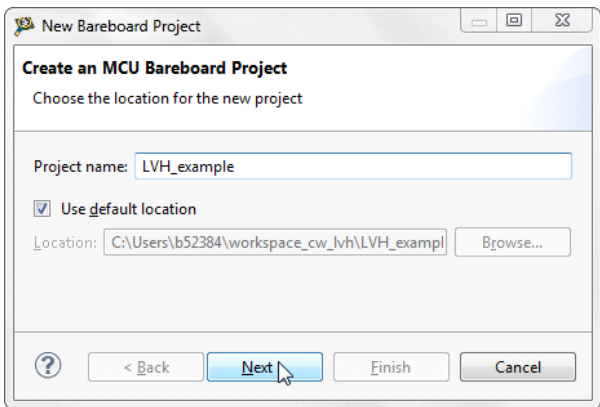

Figure 9. Create an MCU Bare-board Project
1. Create and name an MCU Bareboard project (see Figure 9).